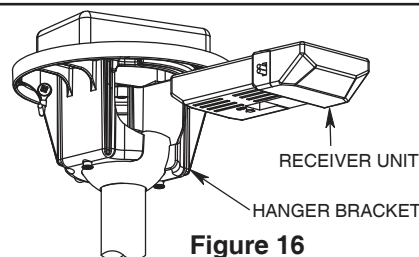

Figure 16
3. Slide the receiver unit into the open end of the hanger bracket (Figure 16).